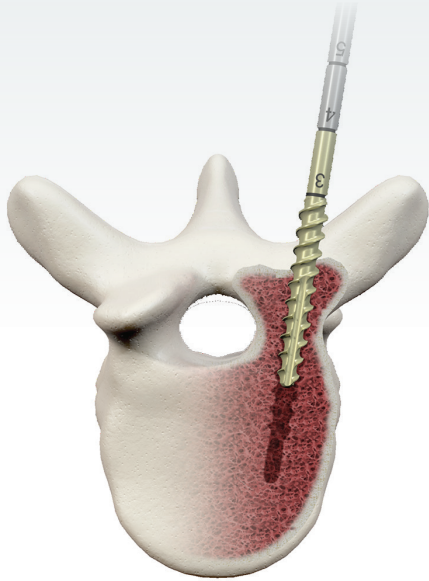

Figure 8
- Some surgeons may elect to use a tap following use of the Vital Power 3.0 mm Blunt-tip Reamer. There is an assortment of taps available in various diameters to accommodate these surgeons. Care should be taken to ensure that the tap is inserted slowly into the pedicle (**Figure 8**).